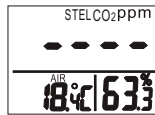

Fig.7
- 2.It takes at least 5 minutes to calculate STEL and TWA. The display shows "----" (Fig.7) during the first 5 minutes from power on.